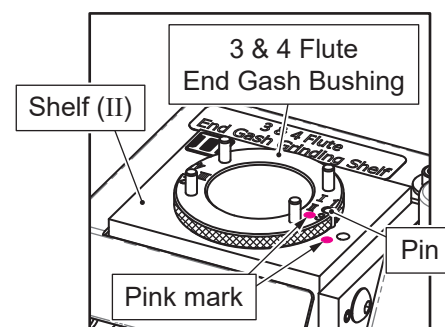

Fig. 12-2
2. End Gash Grinding Shelf (II) (Fig. 12-2)